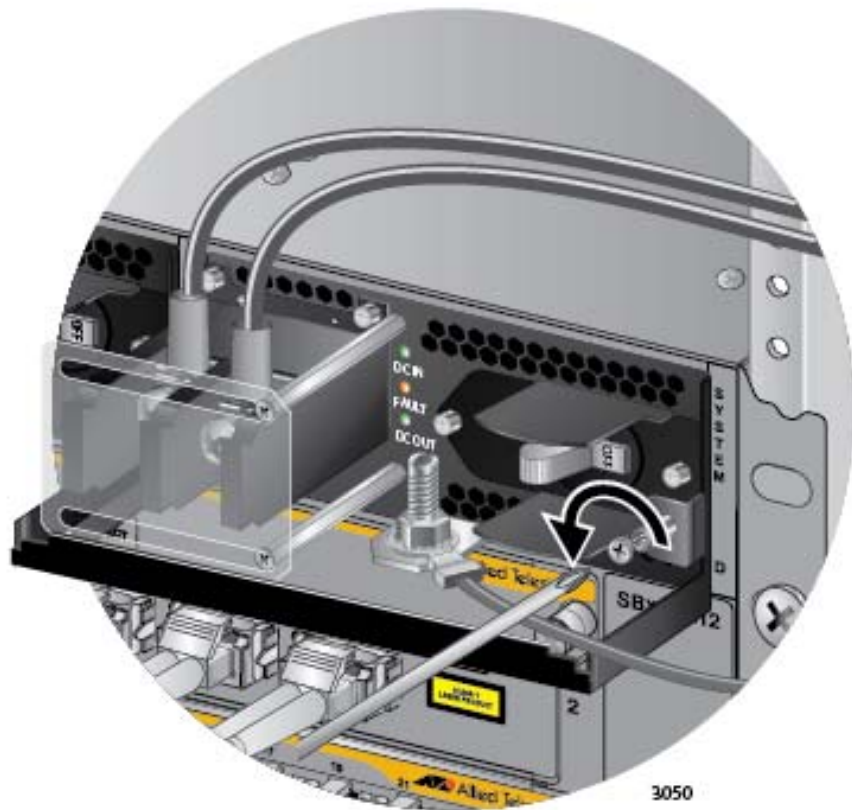

Figure 167. Loosening the Screw on the Locking Handle
3. Use a #2 screwdriver to loosen the screw on the locking handle. Refer to Figure 167.